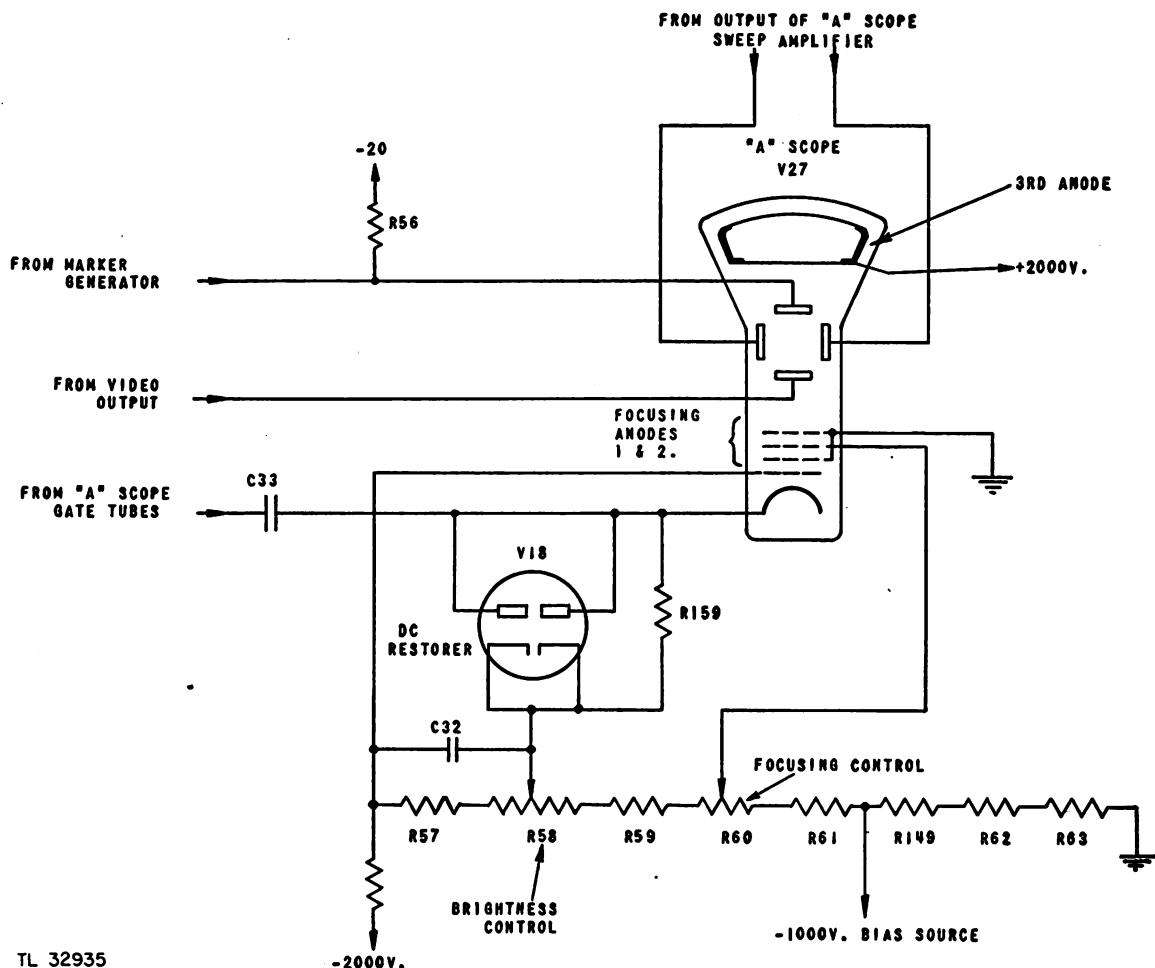

Figure 31. "A" scope functional schematic.
**a. "A" Scope Circuit** (fig. 31). In the "A" scope circuit, the heater, cathode, grid, focusing anode,
The positive voltage used to blank the "A" scope is taken from the junction of resistors R69 and R70 in the plate circuit of the multivibrator tube V12b; (see indicator schematic, figure 39) and is coupled to the cathode of the "A" scope through capacitor C33 (fig. 31). The positive voltage, during the inactive part of the cycle, does not affect the cathode potential of the "A" scope due to the action of the d-c restorer tube V18 which conducts during this period. The low resistance of the tube, when conducting, keeps the cathode of the scope at approximately the same potential as the intensity potentiometer R58. The potential at potentiometer R58 is sufficiently positive in relation to the more negative grid so that the "A" scope is kept inoperative during the inactive part of the cycle. However, during the active part of the cycle, the plate of tube V12b drops in potential. This drop in potential (negative gate) drives the plate of V18 negative and hence it no longer conducts. Thus the d-c restorer prevents the cathode from going positive but has no effect when the cathode is driven negative. Therefore, the potential on the cathode of the "A" scope becomes less positive with respect to the grid, and the scope is unblanked for the duration of the sweep.
(d) *D-C Restorers.* The d-c restorer tube V18 (fig. 31) also serves to keep the sweep trace on the "A" scope in a stable position. Likewise, tube B17 (fig. 32) keeps the intensity modulation of the PPI scope constant for the sweep trace. The average potential of the sweep-voltage pulses varies for the different ranges. The d-c restoring action of tubes V17 and V18, eliminates varying average potentials and maintains stability of sweep-trace action.
(1) RANGE MARKERS. The negative 10-mile and 50-mile range marker pips, taken from the plate of range mixer tube V10, are fed through capacitor C34 directly to the upper vertical deflection plate of the "A" scope (fig. 31). The negative waveshapes deflect the electron beam in a downward direction so that the marker pips appear below the trace line, spaced at 10-mile intervals with every 50-mile marker on enlarged pip.
(2) SIGNALS. The positive video signals from the receiver are fed through the multiple plug board to the indicator unit.